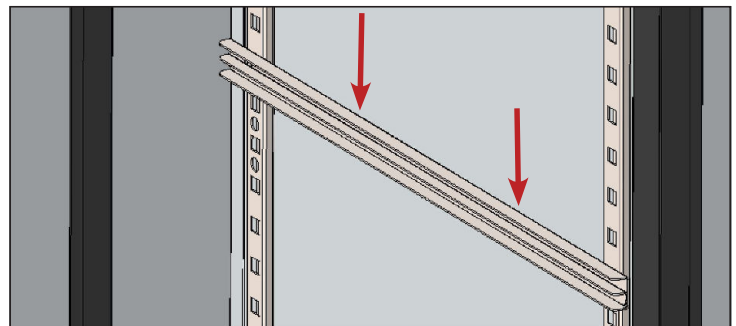

Fig. 3. Push down to make sure the slide is fully seated.
4. Gently push down to lock the shelf/pan slide into position. See fig. 3.